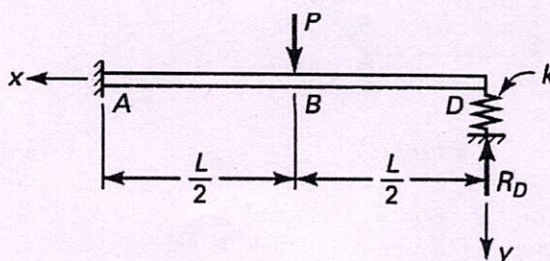

Figure 5
Q.8 The built-in beam shown in Figure 5 is supported at one end by a spring of constant stiffness k . Determine the redundant reaction.